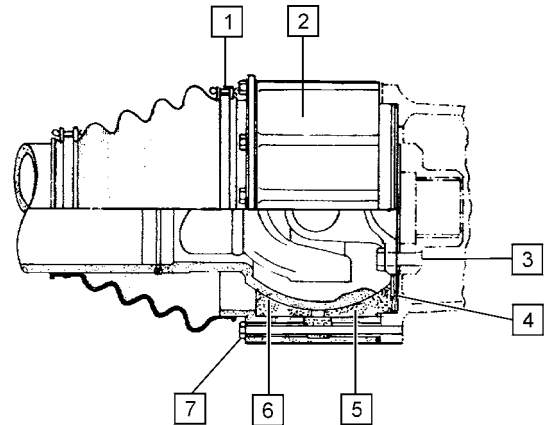

Figure 227 - Front Axle - Securing
- (3) Attach a block and tackle between the front axle torque tube struts and a suitable anchor point on the front of the vehicle (Fig 227).